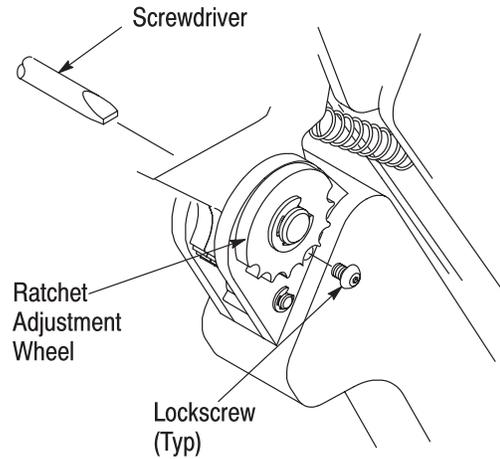

Figure 5
**6. RATCHET ADJUSTMENT** (Figure 5)